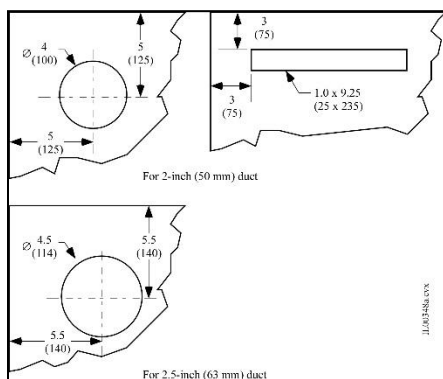

Figure 4. Location of corner outlets
The outlets can be placed in the ceiling, floor or wall. The best place for ceiling outlets is the corner (Figure 4). If that is not possible or practical, anywhere out of the traffic pattern is acceptable. For round floor outlets, be sure to install an outlet screen (UPC-88 or UPC-288) to prevent objects from falling into the duct. This screen is included with the unfinished wood outlet.
1. To be sure there is adequate clearance around the outlet location so the hole can be cut without running into any obstructions, first drill a small 1/8-inch (3mm) hole at the outlet location and check above the ceiling or below the floor to see that there is 2-inch (51mm) clearance all around the hole. Cut a hole in the plaster or drywall (see Figure 4 for hole dimensions). After assuring adequate clearance, cut the hole with a rotary hole saw using the small hole as a pilot hole.